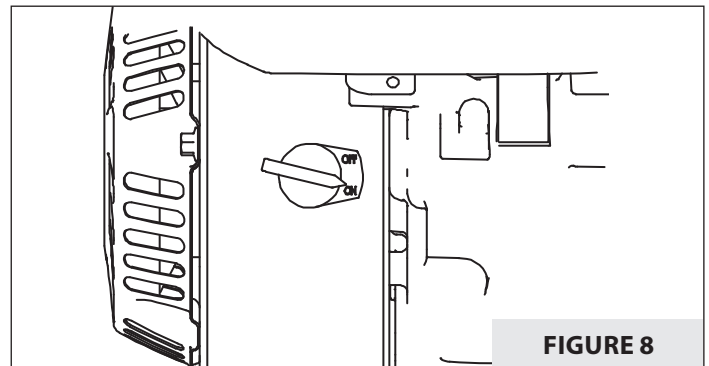

FIGURE 8
7. Turn the ON/OFF switch to the **ON** position. **SEE FIGURE 8.**